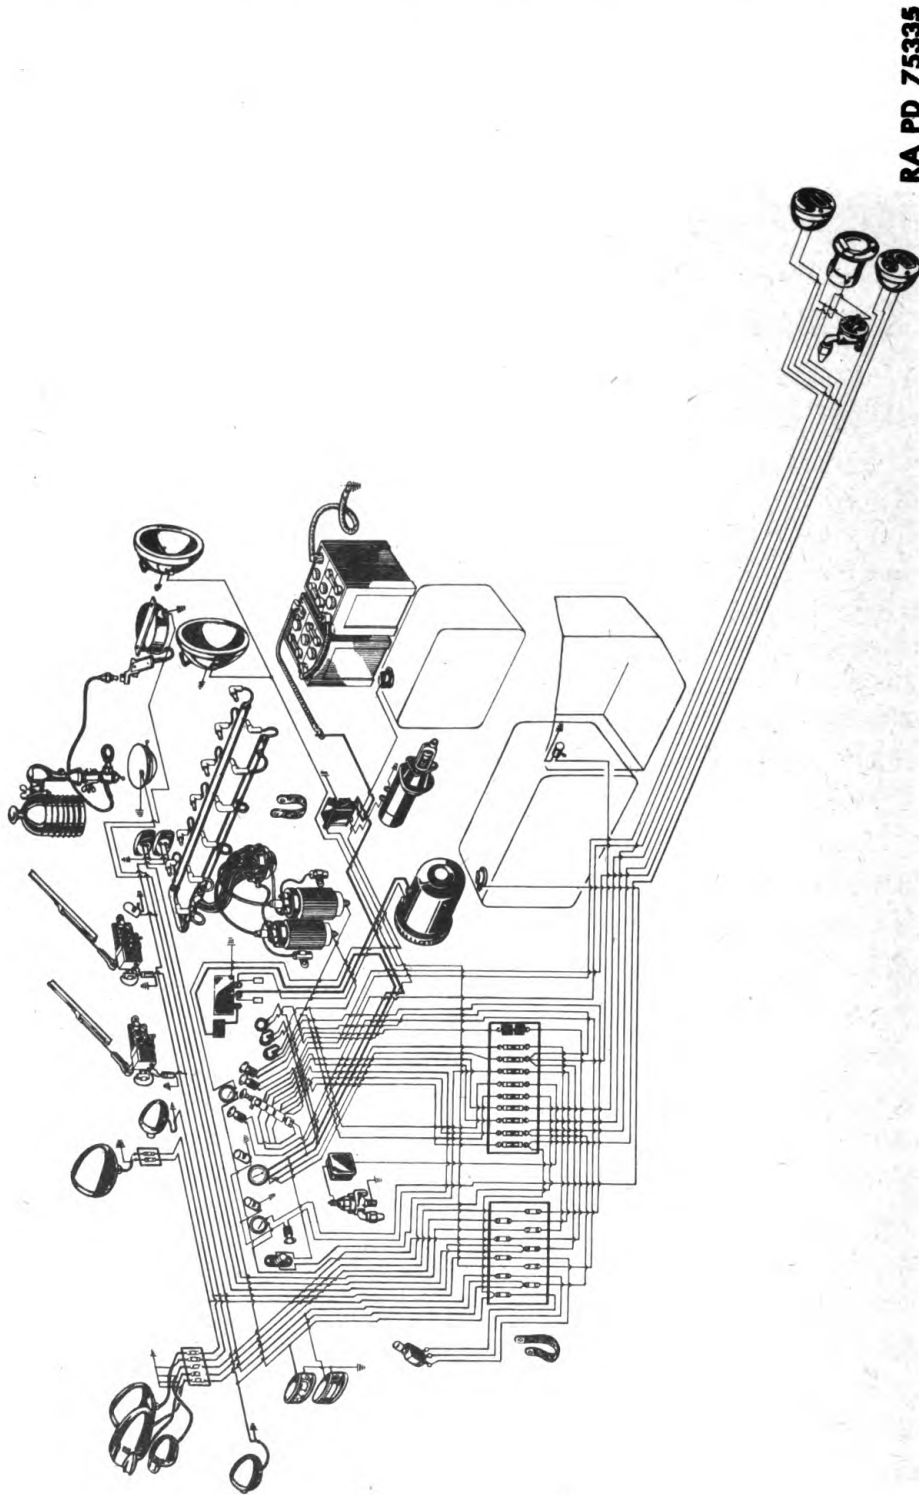

Figure 65 — Wiring Diagram
a. Description. The electrical lighting system consists of the lights used for lighting the truck tractor for driving operation and visibility, and the lights used for signaling purposes. The electric accessories consist of the switches used for controlling the lights, the electric windshield wipers, and the wiring. All electric units are operated by the two storage batteries and are controlled by switches on the instrument panel or on the unit (TM 9-767). The wiring connecting the units and circuit used is shown on the wiring diagram (fig. 65).